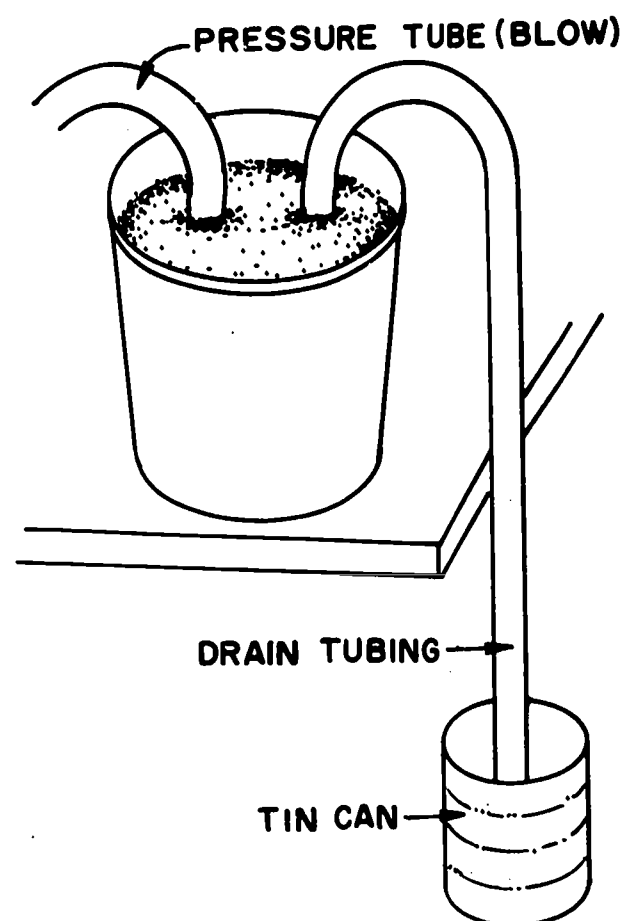

Fig. 84-2. Pumping Setup
6. Place the bucket near the edge of the table so that the end of the longer piece of tubing will be below the bottom of the bucket. Place the tin can under the end of the tubing. See Fig. 84-2.